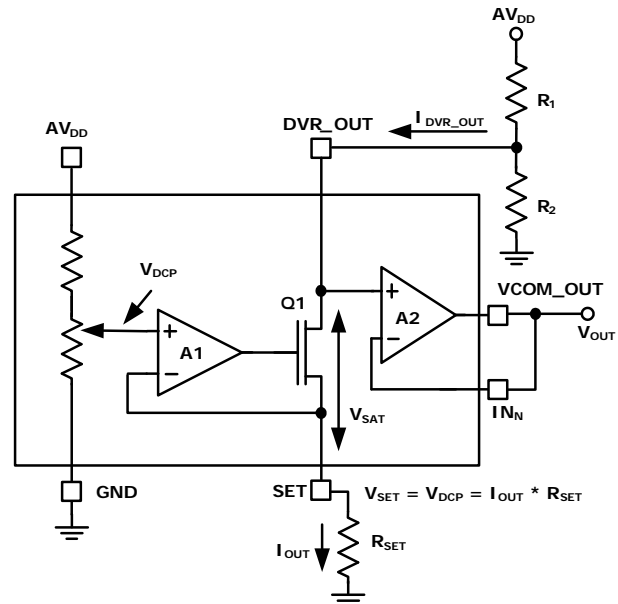

FIGURE 5. CURRENT SINK CIRCUIT
**Electrical Specifications** Test Conditions: VDD = 3.3V, AVDD = 18V, RSET = 5k $\Omega$ , R1 = 10k $\Omega$ , R2 = 10k $\Omega$ , (See Figure 5), VCOM\_OUT pin connected to INN, unless otherwise specified. Typicals are at TA = +25°C. **Boldface limits apply over the operating temperature range, -40°C to +85°C.**
**Electrical Specifications** Test Conditions:  $V_{DD} = 3.3V$ ,  $AV_{DD} = 18V$ ,  $R_{SET} = 5k\Omega$ ,  $R_1 = 10k\Omega$ ,  $R_2 = 10k\Omega$ , (See Figure 5),  $V_{COM\_OUT}$  pin connected to  $IN_N$ , unless otherwise specified. Typical values are at  $T_A = +25^\circ C$ . **Boldface limits apply over the operating temperature range,  $-40^\circ C$  to  $+85^\circ C$ .** (Continued)
The ISL24212 uses a digitally controllable potentiometer (DCP), with 256 steps of resolution (see Figure 4) to change the current drawn at the DVR\_OUT pin, which then changes the voltage created by the  $R_1 - R_2$  resistor divider (see Figure 5). The DVR\_OUT voltage is then buffered by A2 to generate a buffered output voltage at the  $V_{COM\_OUT}$  pin, capable of directly driving the  $V_{COM}$  input of an LCD panel. The amount of current sunk is controlled by the setting of the DCP, which is recalled at power-up from the ISL24212's internal EEPROM. The EEPROM is typically programmed during panel manufacture. As noted in the "Electrical Specifications" on page 4, the ISL24212 requires a minimum  $AV_{DD}$  voltage of 10.8V for EEPROM programming, but will work in normal operation down to 4.5V after the EEPROM has been programmed, with no additional EEPROM writing.
Figure 5 shows the schematic of the DVR\_OUT current sink. The combination of amplifier A1, transistor Q1, and resistor  $R_{SET}$  forms a voltage-controlled current source, with the voltage determined by the DCP setting.
With amplifier A2 in the unity-gain configuration ( $V_{COM\_OUT}$  tied to  $IN_N$  as shown in Figure 5),  $V_{DVR\_OUT} = V_{COM\_OUT} = V_{COM}$ .